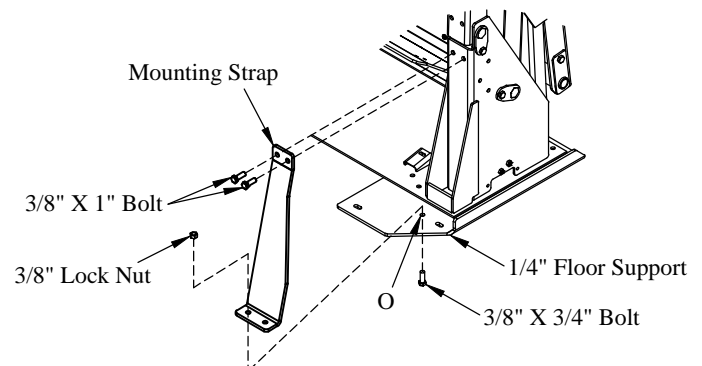

Figure 11: Mounting strap.
6. **Install** the mounting strap between the liftgate and floor support. Use a 3/8" x 3/4" bolt and lock nut at location "O" (Figure 11).